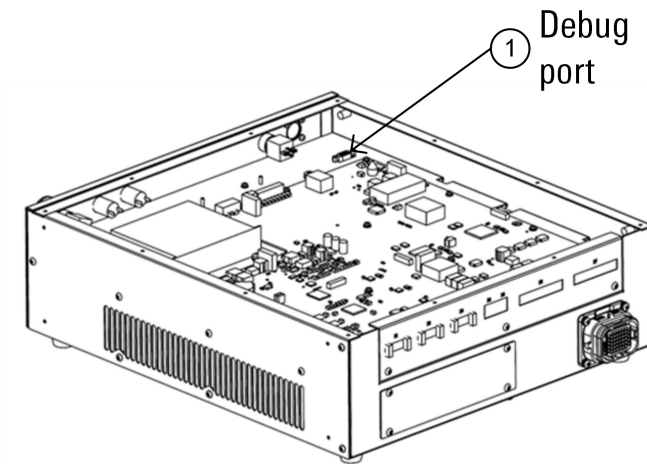

Figure 8-3 Schematic diagram of position of debugging port
The multi-axis drive debugging interface X025 of the inCube20 control cabinet is located on the sheet metal in the middle partition of the control cabinet, as shown in Figure 8-3. When adjusting the multi-axis drive parameters, you must connect RS422 to the interface ① via USB cable. For details about debugging, please refer to "Operation Manual of Robot Body".